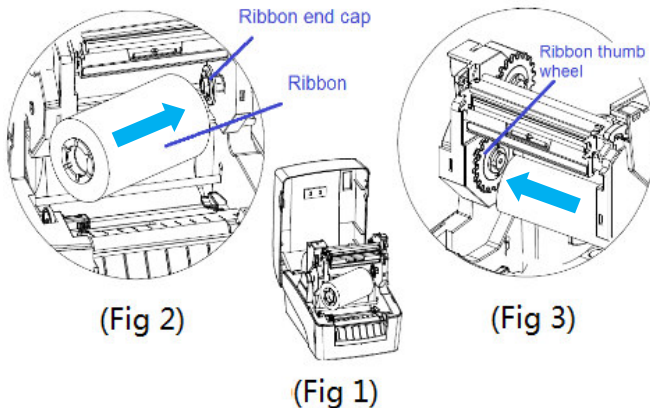

Figure 2.3.1
- A) For the ribbon shaft with an inner diameter 12.7mm (1/2 inch), the operation method is as shown in Figure 2.3.1 (please pay attention to the installation direction). Firstly, rotate the ribbon holder to the position shown in Fig.1, then insert the ribbon into the ribbon end cap in the direction shown in Fig.2 and insert the other end of ribbon into the ribbon thumb wheel, and then pull the ribbon outward slightly until you feel an elastic retraction force which indicates that the installation of ribbon on releasing shaft is complete (see Figure 2.3.1);